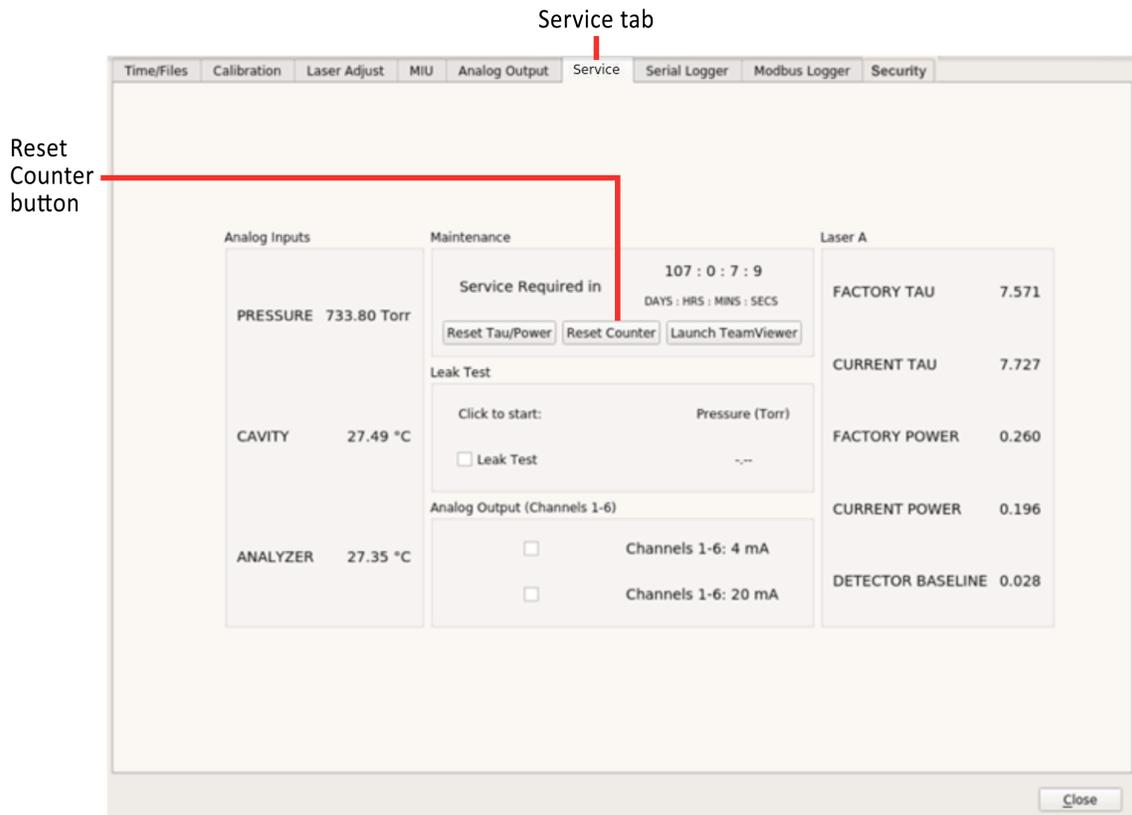

Figure 45: Service Screen
ABB-trained field service engineers monitor the performance of the analyzer via the *Service* screen. (Figure 45)
- The timer can be reset by pressing the **Reset Counter** button. (Figure 45)